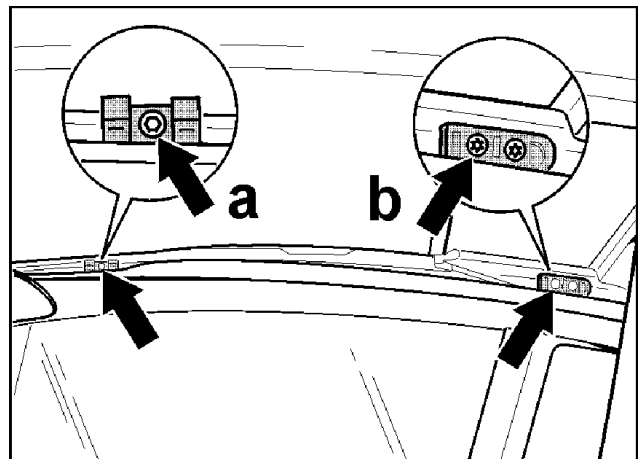

Figure 1
5. If the bolt securing the front axle plate (A, figure 1) is found to be loose, replace the front axle plate and the bolt. The looseness of the front axle plate will accelerate the wear on the guide pins.